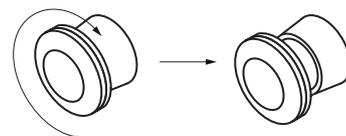

Fig. 2.2 Releasing the E-STOP button.
3. Make sure that the **E-STOP** button is released. If not, twist it clockwise up to the stop and release (fig. 2.2).